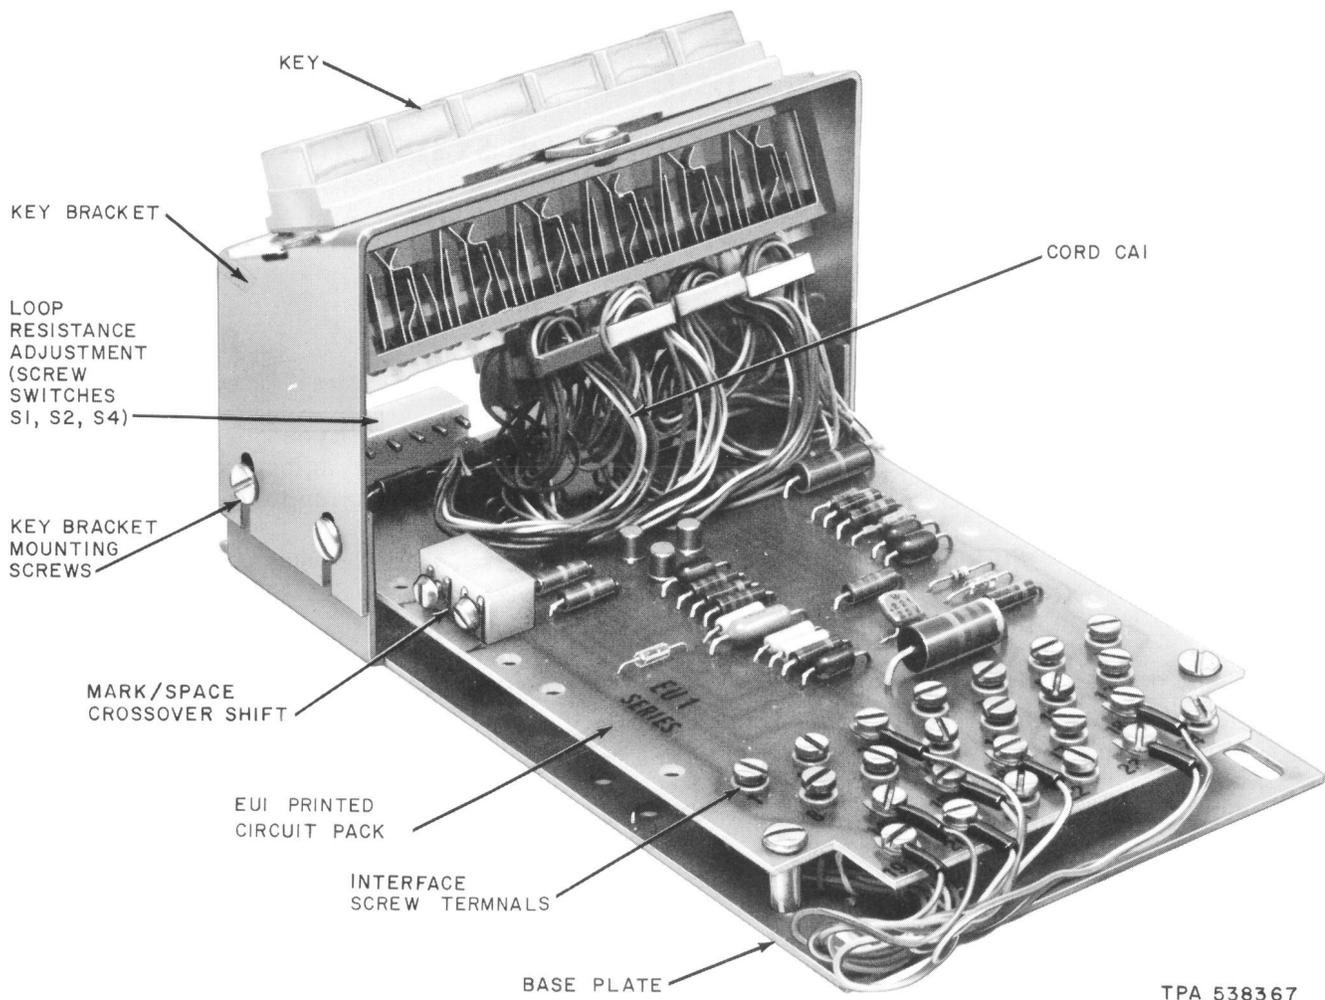

Fig. 1—Data Set 109C-L1
1.02 Data Set 109C-type (Fig. 1) is a low-speed (up to 300 bauds), half-duplex, serial transmission, ungrounded dc (baseband) data set. It is specifically designed to mount within a suitably configured model No. 33 or 35 teletypewriter (TTY). The data set requires approximately 3 watts peak power of filtered +24 volts dc which is supplied by the TTY call control unit.
2.01 Data Set 109C-L1 (Fig. 1) consists of an EU1 circuit pack, a 635T2 key, a CA1 cord, and a metal bracket.
3.06 An additional feature of the Data Set 109C-type is the mark/space crossover shift. Screw switches Y and Z associated with this option are shown in Fig. 1. They function as follows:
3.07 A resistor pad arrangement is built into the data set EU1 circuit pack, allowing resistance to be added to the metallic loop. By opening or closing various screw switch combinations, the line can be built out to a nominal value of 2000 ohms, in 8 steps of approximately 270 ohms each. See Fig. 1 and Table C.